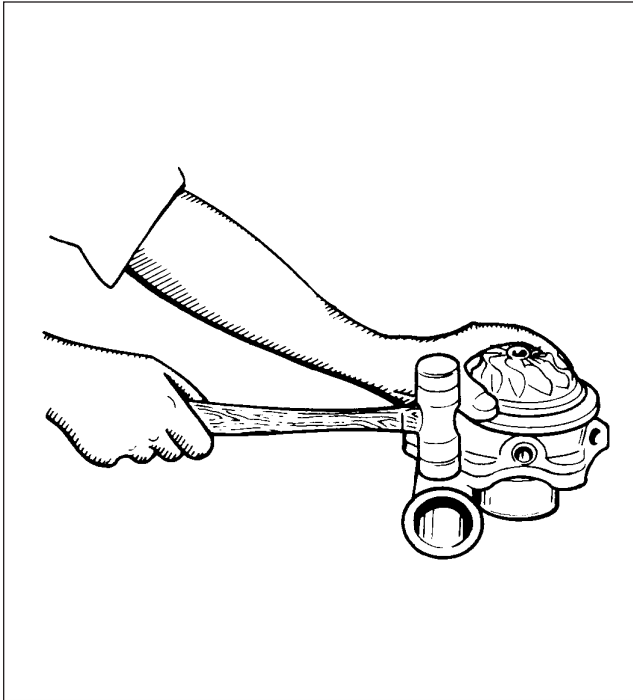

Figure 81-1. Removing Compressor Housing from Turbocharger
5. Remove the six bolts that secure the compressor housing to the turbocharger bearing housing; remove the compressor housing and gasket. If necessary, tap the compressor housing with a plastic hammer while holding the bearing housing as shown in Figure 81-1.